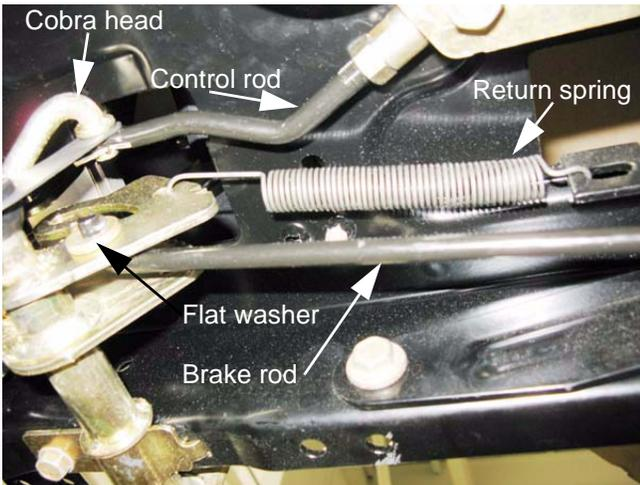

Figure 6.23
8. Remove and discard the cotter pin that holds the tensioner pulley control rod to the "cobra head" arm on the drive control pedal. See Figure 6.23.